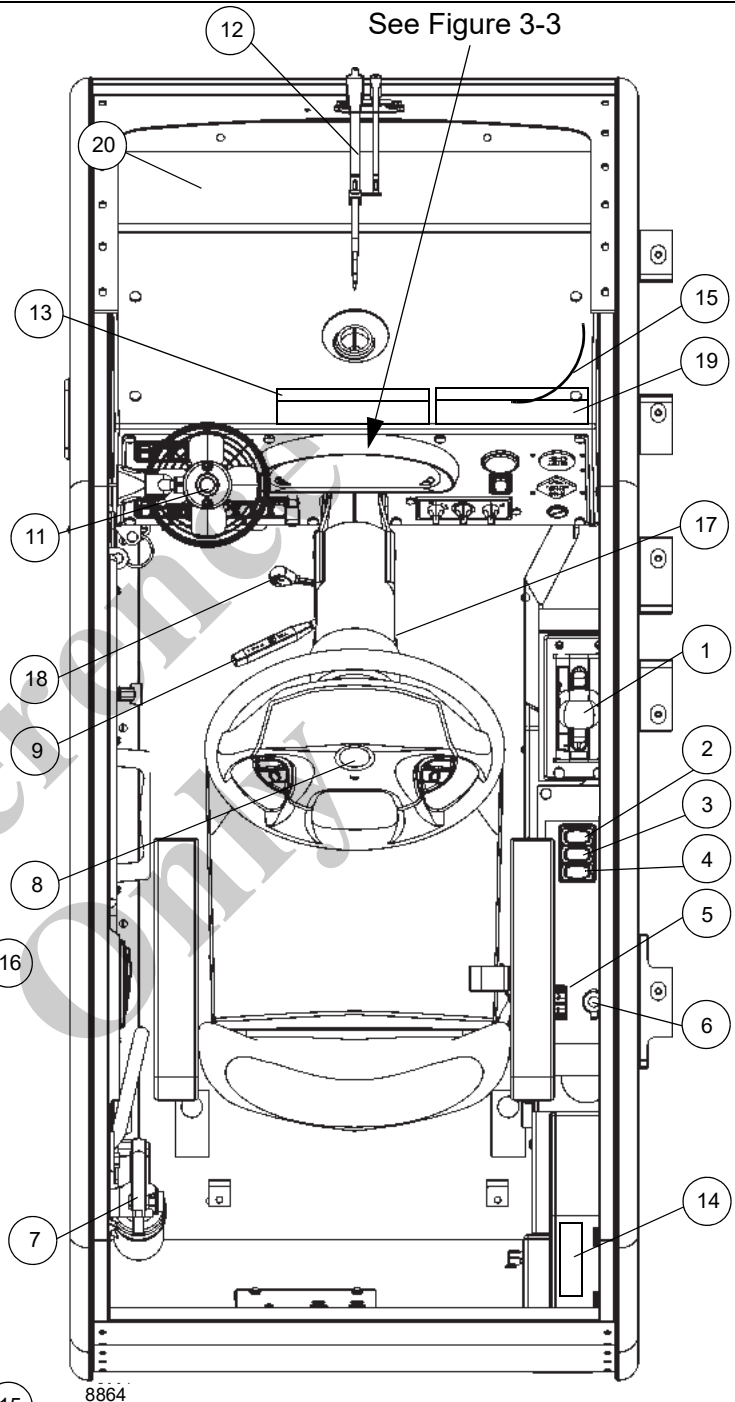

FIGURE 3-1
The transmission shift lever (1), (Figure 3-1) is located on the right side of the cab. It is used to select the transmission gears. Refer to *Automated Transmission*, page 4-18 of this *Operator Manual*.
The spare switch/indicators (2, 3, 4), (Figure 3-1) may be populated with future options.
A USB Connector is provided (5), (Figure 3-1). The ODM/RDM (Figure 3-26) also contain USB ports which allow a service technician to connect to the ODM and update its software or download the data logger, which records events that can occur when operating the crane. (Refer to *ODM and RDM Panels*, page 3-19.)
The 12 volt outlet (6), (Figure 3-1) provides a place to plug in a 12 volt accessory with a maximum current draw of 3 amps.
The fire extinguisher (7), (Figure 3-1) is mounted on the left inside rear of the cab.
The horn button (8), (Figure 3-1) is located in the center of the steering wheel. Pressing the horn button energizes the circuit sounding the horn.
The turn signal lever (9), (Figure 3-1) is located on the steering column. Positioning the lever down causes the indicator light on the console and the left front and left rear signals to flash. Positioning the lever up causes the indicator light on the console and the right front and right rear signals to flash. Pull back for high beam and push forward for low beam.
The brake pedal (10), (Figure 3-1) is located on the right side of the cab floor and is used to apply the service brakes.
The cab circulating fan (11), (Figure 3-1) is mounted on the left front of the cab and is controlled by a two speed rocker switch on the base of the fan.
The windshield wiper and washer (12), (Figure 3-1) removes moisture from the windshield. The washer applies a liquid to the windshield so the wiper can clean it.
The camera display(optional) (13), (Figure 3-1) will show two images from the carrier cab, the rear view and the right side view. When selecting reverse gear, the display will show the rear view full screen. When the turn signal is selected for right turn, the display will show the right side view full screen. For additional information on optional camera's, refer to the *Camera Group for Crane Operation (Optional)*, page 6-14.
The dome light and switch (14), (Figure 3-1) is located in the right rear corner of the cab and is used to illuminate the cab.
Pull down on the air horn control (15), (Figure 3-1) to sound the air horn.
The throttle pedal (16), (Figure 3-1) is located on the right side of the cab floor. It is used to increase the engine speed.
The hazard light control switch (17), (Figure 3-1) is located under the steering column. It is used to cause all four turn signals to flash.
The steering column tilt/telescope lever (18), (Figure 3-1) is located on the left side of the steering column. Push the lever to telescope the steering column and pull the lever to tilt the steering column.
There are two radios independent of each other: one in the carrier cab and a second in the superstructure cab. In the carrier cab, the Radio (19), (Figure 3-1) is located overhead on the right side of the carrier cab next to the air horn. The radio also contains a USB MP3/ WMA/ Bluetooth and auxiliary port (far right side of radio). Refer to *Superstructure Cab*, page 3-19.
The Sun Visor (20), (Figure 3-1) is located in the upper left corner of the carrier cab. The sun visor is a small screen above a vehicle's windshield, attached by a hinge so that it